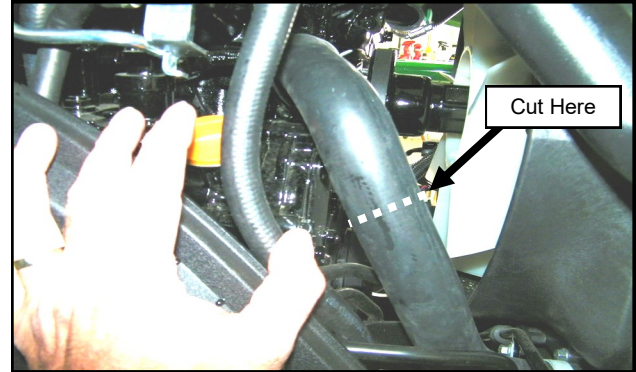

Fig. 2.2 (Cut Lower Radiator Hose)
- 2.2 Cut the lower radiator hose where shown. See Figure 2.2.